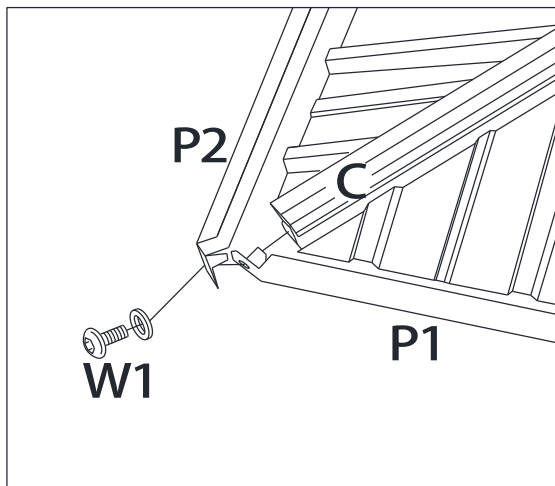
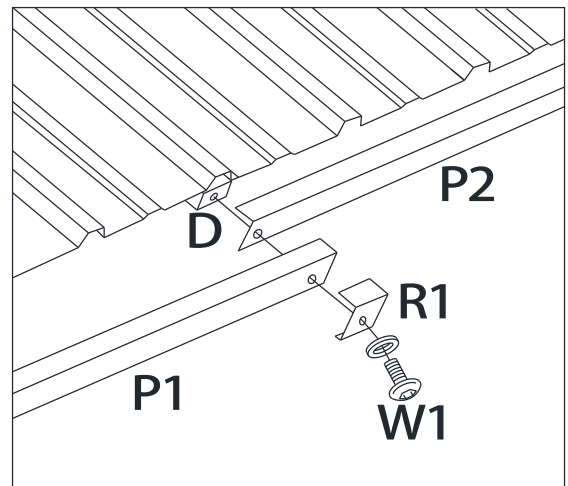

Fig.11.1
Fig.11.2
11. Attach #1 Roof Borders (P1) and #2 Roof Borders (P2) to the edge of the roof as shown with a Bolt (W1). Attach the Short Bar Connector (R1) as shown with Bolt (W1). See Fig.11 (Fig.11.1—Fig.11.2).